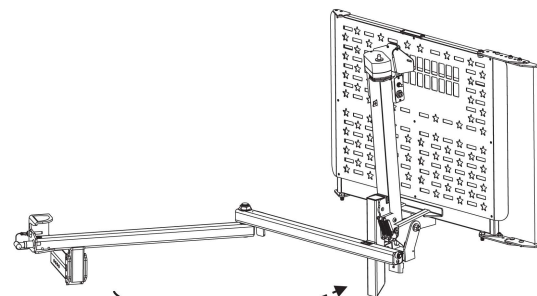

Figure 6-5
- Grasp the lift firmly and swing it out, away from the vehicle. The Swing-Away can be opened up to 180 degrees from the closed position to allow full access to the vehicle's cargo area. [Figure 6-5]